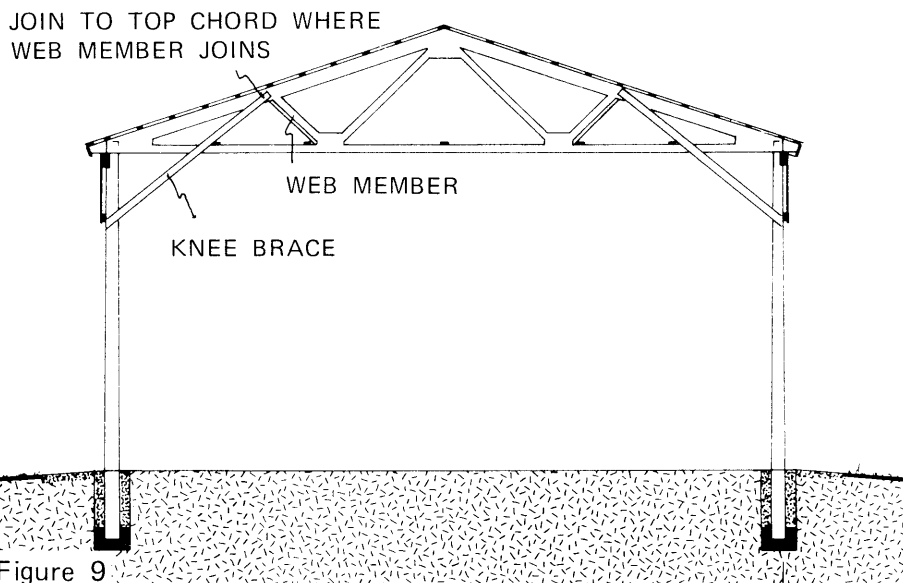

Figure 9
- If the designer specifies wail-to-roof knee braces for wind bracing in the plane of the truss, fasten these to the top chord where the web member joins (Figure 9). This eliminates bending stresses in the top chord that would develop if the knee braces were fastened between web members. The knee brace is fastened to the bottom chord for lateral support only. Also note that with wind, knee bracing tends to lever the truss up and away from the leeward wall. Therefore knee bracing calls for extra care at the truss-to-wall connections.